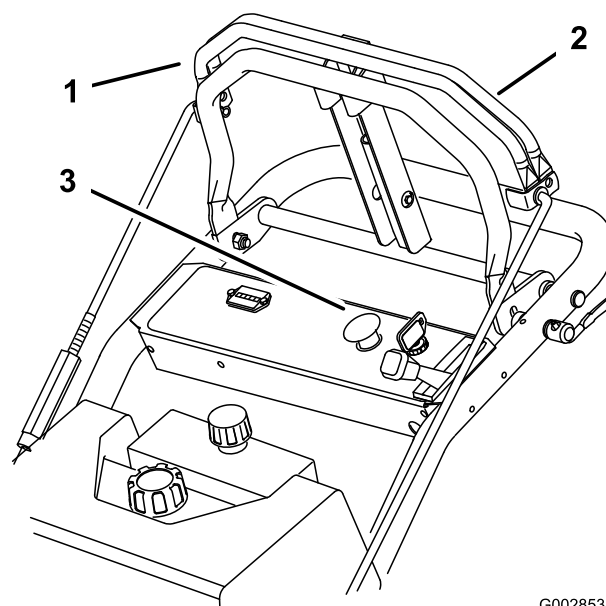

Figure 14
1. Release the upper control bar to stop the machine (Figure 14).
2. To engage blade, squeeze blade control bail against the upper control bar (Figure 14).
Release the blade control bail to disengage the blades (Figure 14).